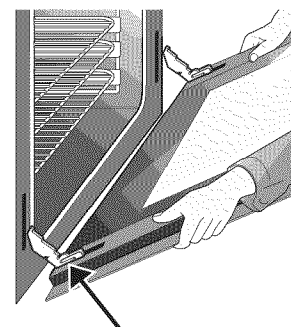

Figure 43: Holding door for removal
4. Keep pulling the bottom of the door toward you while rotating the top of the door toward the appliance to completely disengage the hinge levers (Figure 43).
1. Firmly grasp both sides of oven door along the door sides. Do not use the oven door handle (Figure 43).
2. Holding the oven door at the same angle as the removal position, seat the hook of the hinge arm over the roller pins located on each side of the oven door frame (Figure 43). The hook of the hinge arms must be fully seated onto the roller pins.